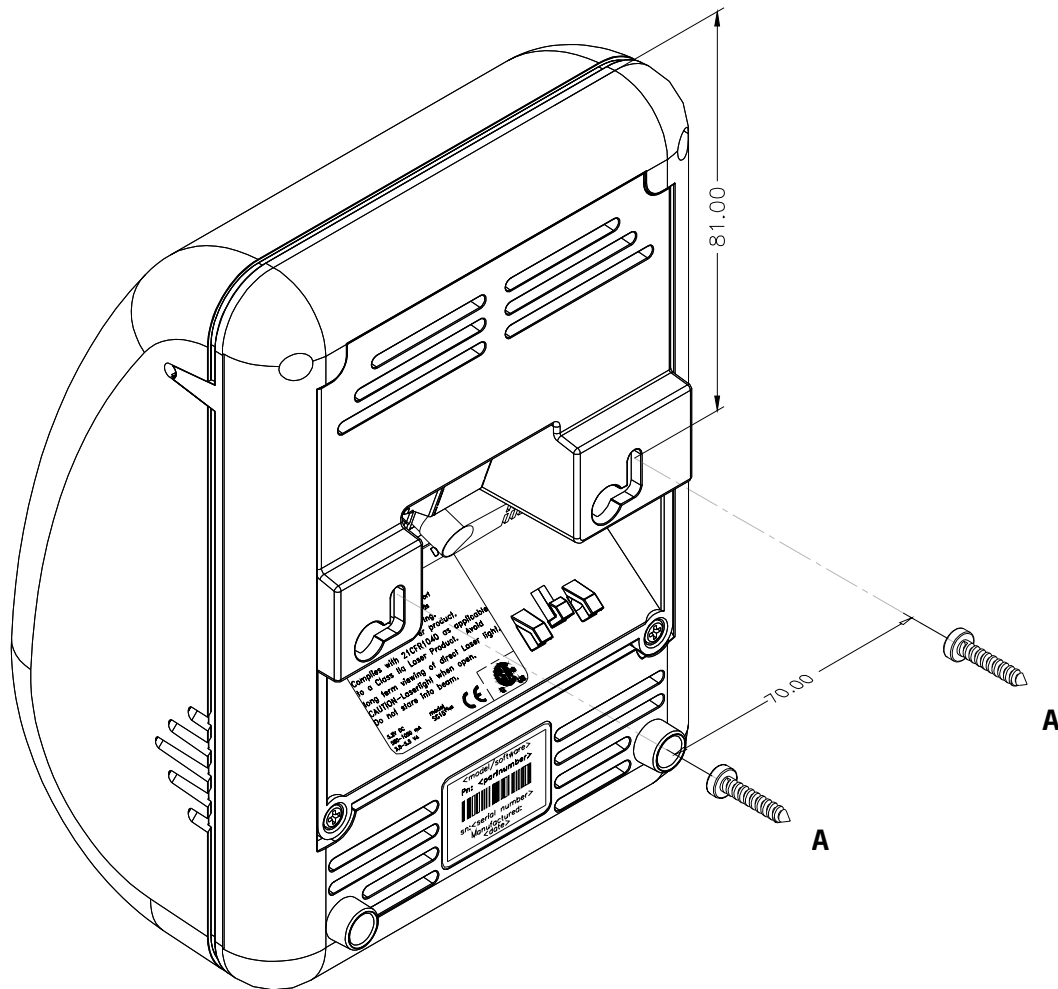

fig 3.1
3. Connect the power cable and the communication cable of the Shuttle^c (see figure 3.1 above).